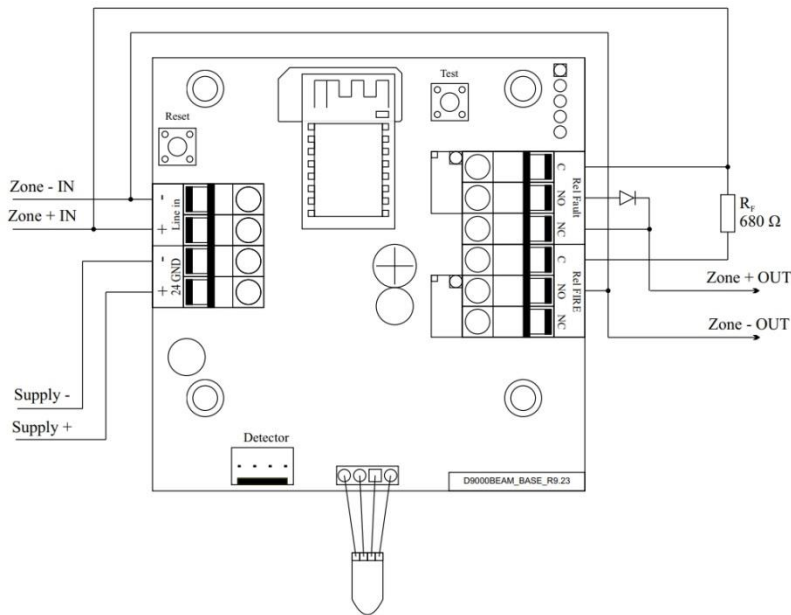

Fig.4
- When using more than one detector in one area of a conventional panel, it is important to choose the right wiring method (Fig.4). Improper wiring will isolate serial devices in this area if it enters the "Failure" condition and prevent these devices from signaling "Fire" on the panel.